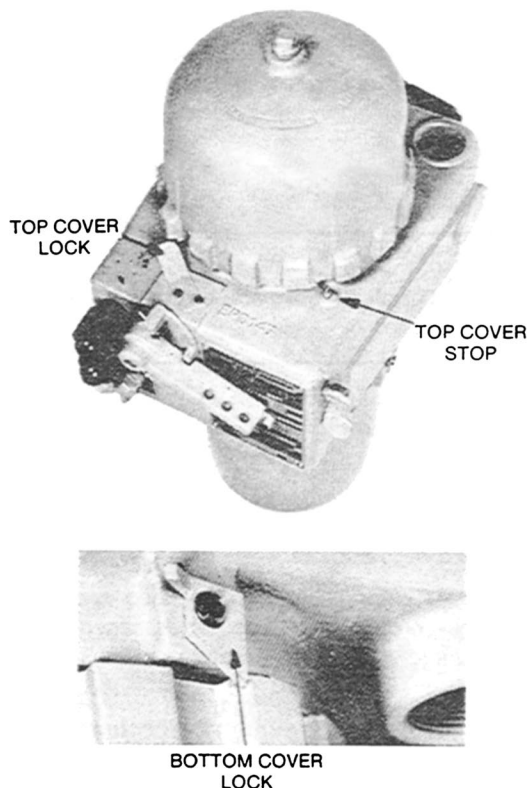

Figure 1
1. Remove top and bottom covers. To remove top cover, depress lock and unscrew cover. See Figure 1. To remove bottom cover, lift and disengage lock then unscrew cover. Both covers are quick opening type requiring less than two turns to remove or install.
Turn covers on until mechanical stops engage. Check locks to see that they are in position to prevent loosening the covers. See Figure 1.